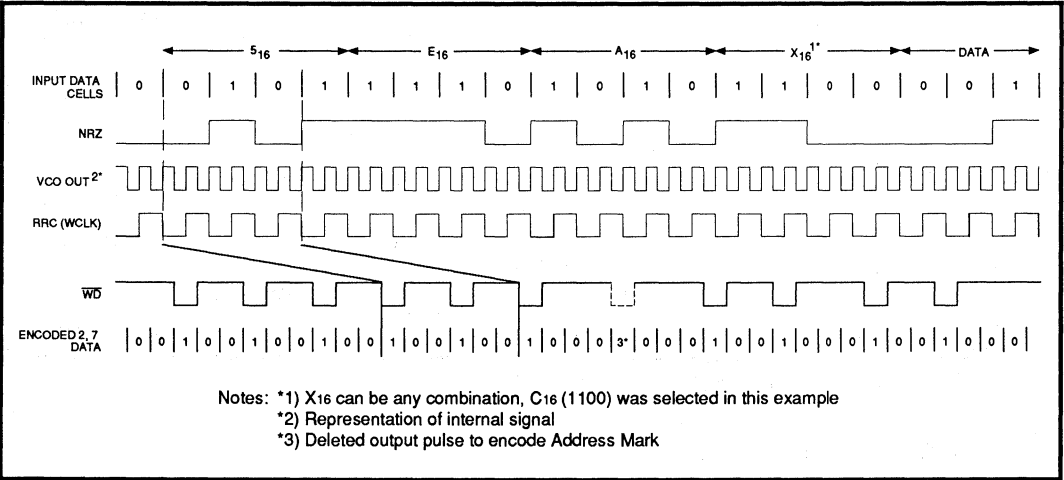

FIGURE 8: Write Address Mark Generation
In the Soft Sector Mode, when WRITE GATE (WG), transitions high and the NRZ input is held low, the SSI 32D535 automatically generates the 3T (100) Preamble Field at the WRITE DATA (WD), output. The 3T Preamble Field will continue to be generated until the first low to high transition on the NRZ line. As shown in Figure 8, the first low to high transition occurs with the second bit '1' of the 5₁₆ (0101) in the 5EAX₁₆ Address Mark generation pattern. To generate the Address Mark, the SSI 32D535 automatically changes the '1' in the eleventh position (see note 3) of the 2, 7 RLL encoded sequence, to a '0'. This generates a pattern of seven zeros followed by two zeros. This unique pattern satisfies the 2, 7 RLL constraints, but will never occur during a normal encoding sequence. The x₁₆ of the 5EAX₁₆ Address Mark generation pattern can be selected, a 'C₁₆' (1100) was utilized in this example.